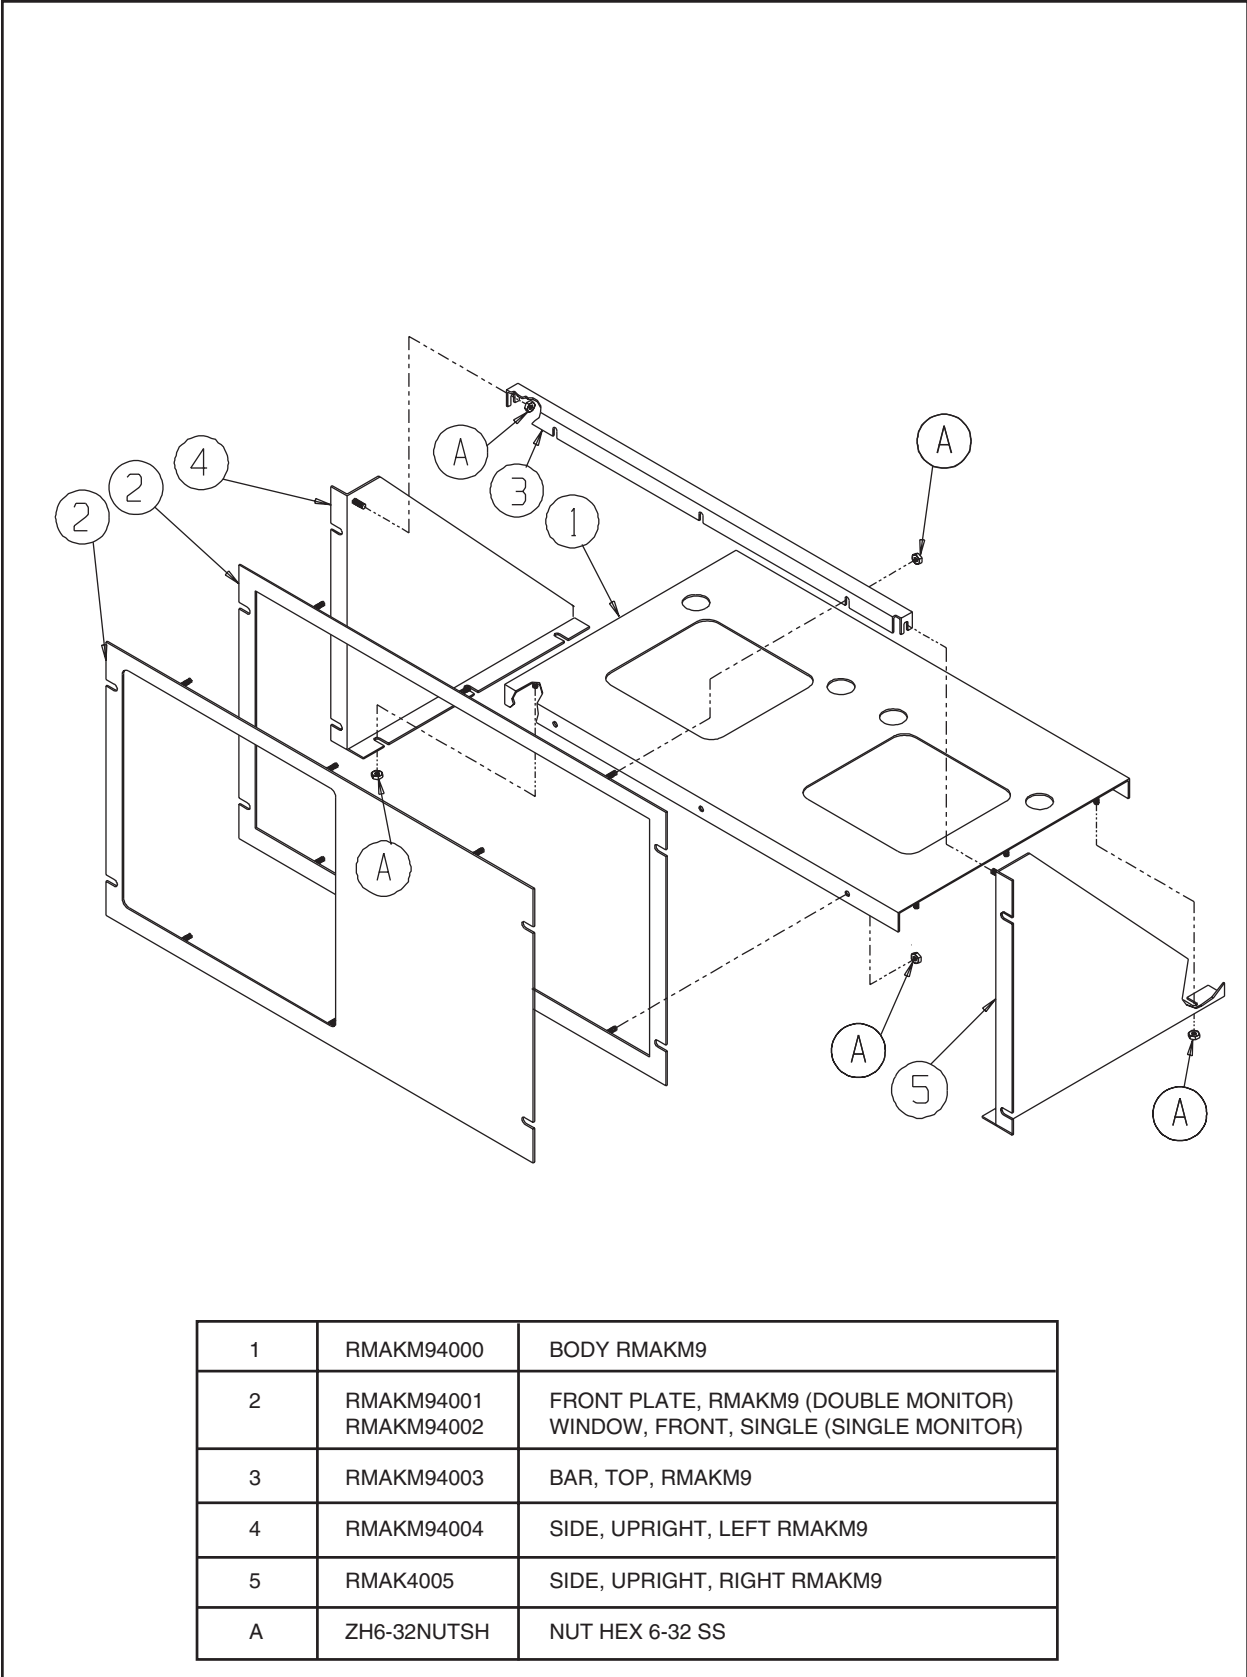

Figure 2. RMAKM9 Rack Kit Assembly
1. Assemble the rack as shown in Figure 2 using the supplied hardware.